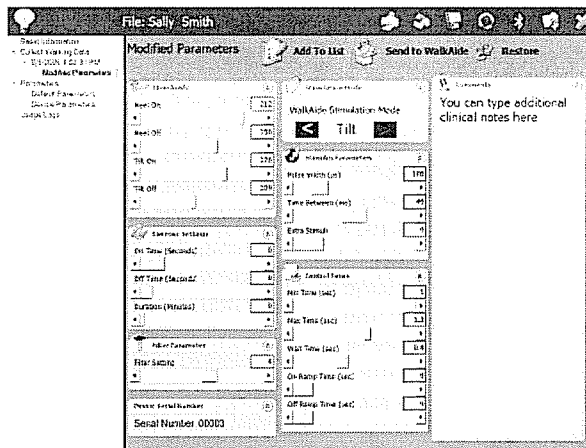

Figure 25 – Associated Parameters screen.
7. Click on the '**Modified Parameters**' for the selected trial from the list on left side of the screen (Figure 25). Set the WalkAide Stimulation Mode to the appropriate setting (Tilt or Heel) and click on the '**Send to WalkAide**' icon. Click 'OK' to confirm. The new parameters associated with the client's previous walking trial have now been sent to the WalkAide.